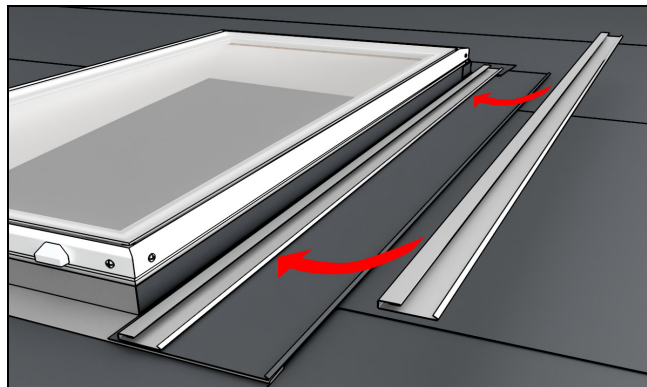

Figure 56
4. Place J-channel with the bottom flush with jamb flashing. J-channel can be positioned tight against side of jamb flashing or moved away from unit to accommodate seam cut back. Top of J-channel is cut to length as needed not to interfere with top metal roof cut out. J-channel will be further secured with roofing screws. See Figure 56.